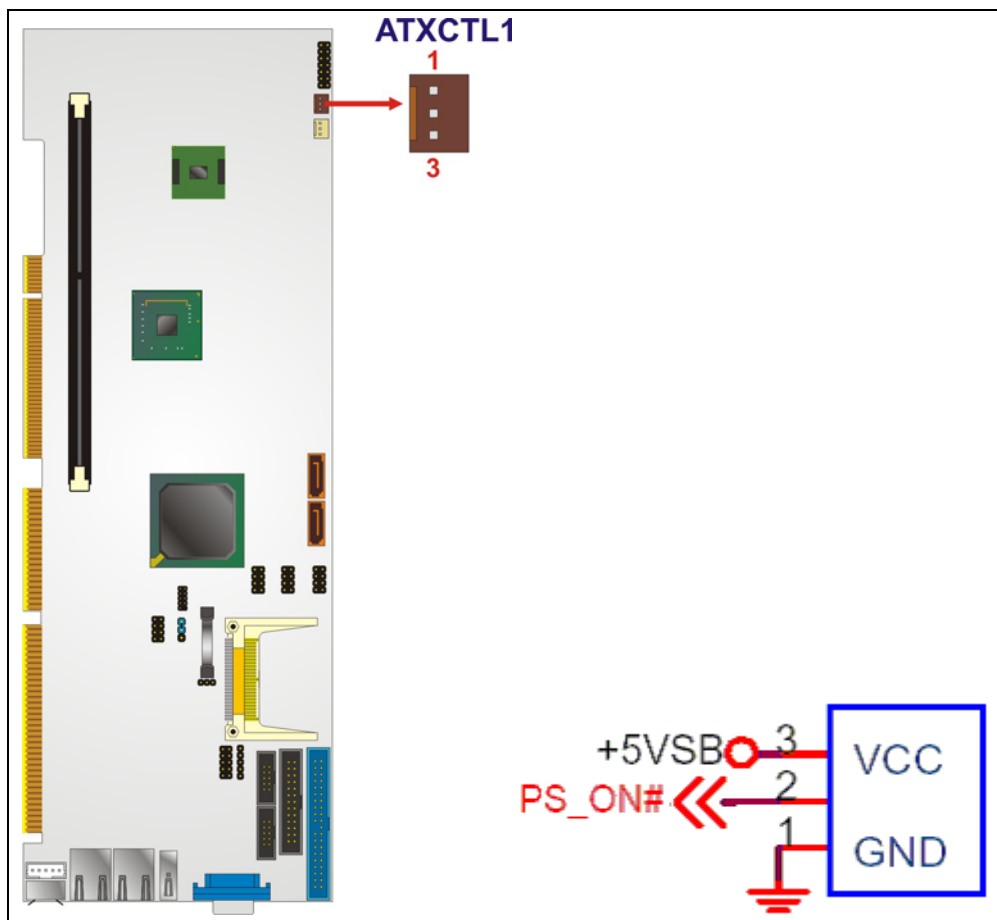

Figure 4-2: ATX Power Supply Enable Connector Location
- CN Location:** See **Figure 4-2**